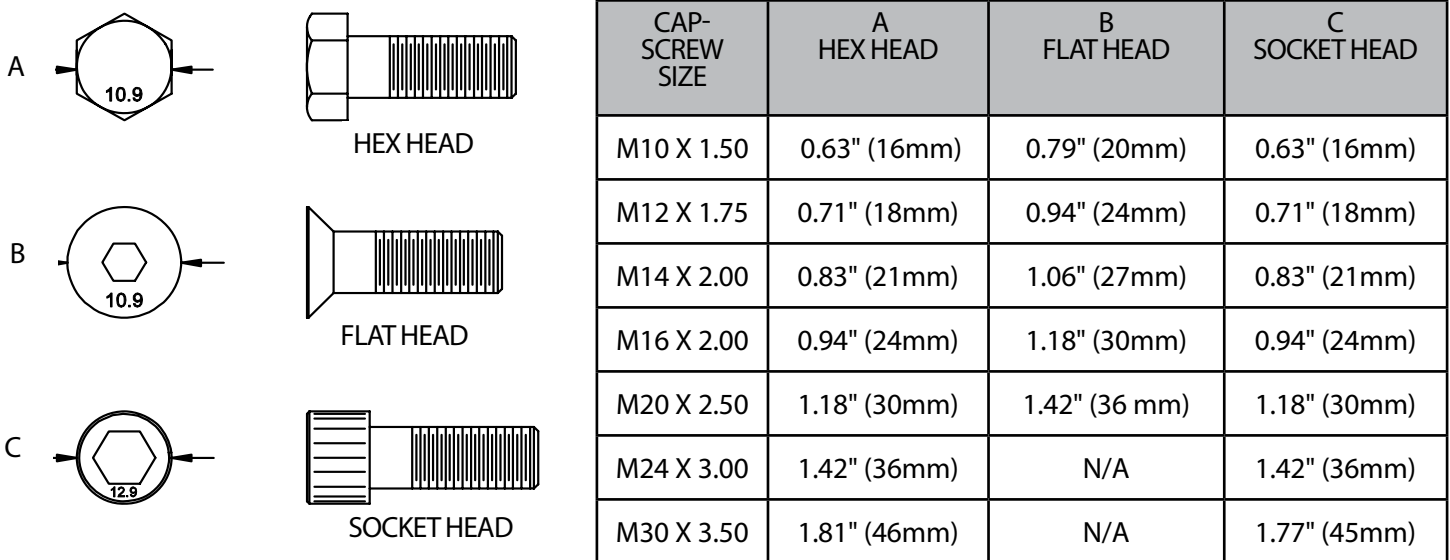

FIGURE 5-2
1. Always replace bolts and nuts with the same size and class of fastener. Replacement fasteners can be ordered from the LaBounty Parts Department to ensure the correct part is used (refer to figure 5-2). Unless otherwise specified, use class 10.9 metric hex head capscrews, class 10.9 metric flat head capscrews, and class 12.9 metric socket head capscrews.